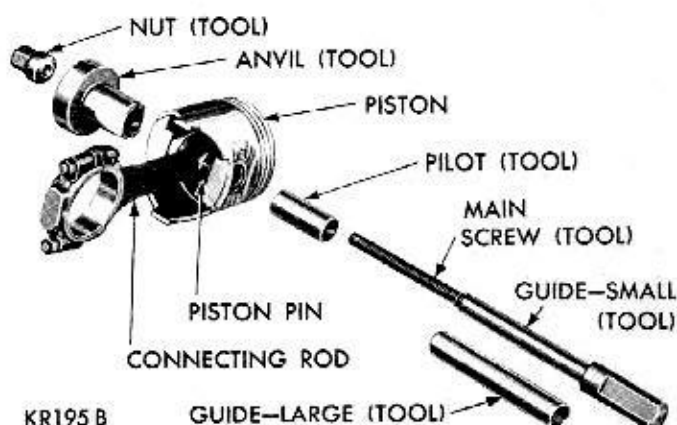
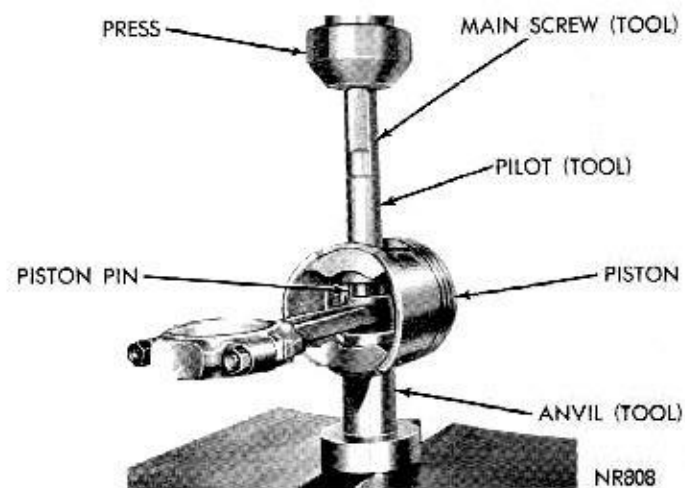
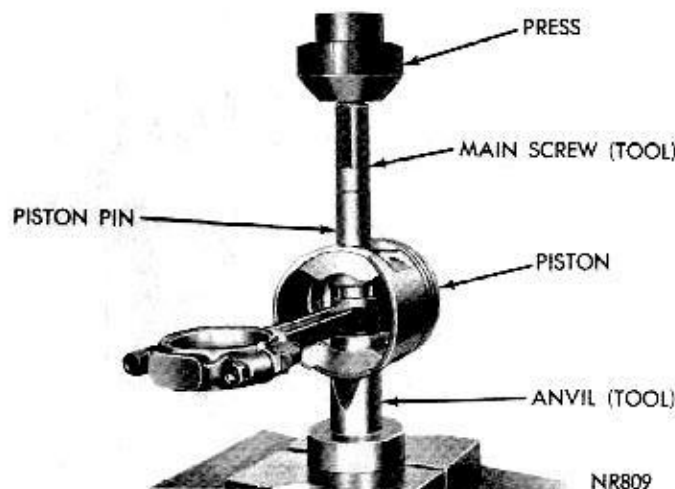

Fig. 38—Tool Arrangement for Removing Piston Pin
Fig. 39—Removing Piston Pin
Fig. 41—Installing Piston Pin
(1) Arrange Tool C-3684 parts for removal of piston pin, (Fig. 38).
(2) Install pilot on main screw.
(3) Install main screw through piston pin.
(4) Install anvil over threaded end of main screw with small end of anvil against piston boss. **Be sure spring is removed from anvil.**
(5) Install nut loosely on main screw and place assembly on a press, (Fig. 39).
(6) Press piston pin out of connecting rod.
(8) Install nut on puller screw to hold assembly together. Place assembly on a press (Fig. 41).
(9) Press piston pin in until piston pin "bottoms" on the pilot. This will position pin in connecting rod.
(10) Remove tool and arrange tool parts and piston assembly in same manner (Fig. 38).